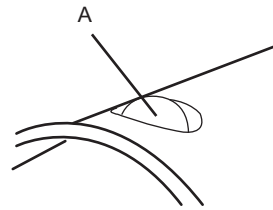

Fig. 2b
- > Release the safety pin; ensure that it engages in the hole on the upper shaft (Fig. 2b).